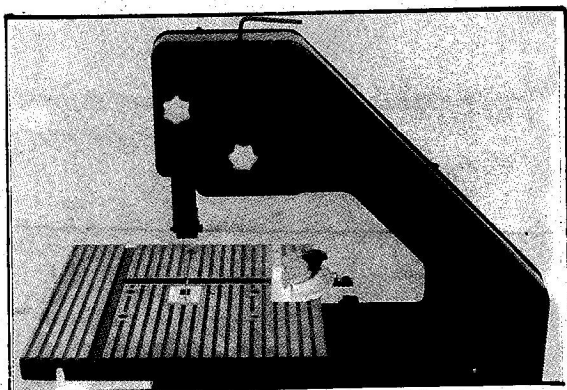

FIGURE 11
IMPORTANT! THE BLADE MUST BE TENSIONED BEFORE THE BAND SAW CAN BE USED. TO CUT, TWIST TO THE PROPER POSITION AND LOCK. WHEN THE BAND SAW IS NOT IN USE, RELEASE THE TENSION TO PROTECT THE BLADE. (See Figure 11)
8. Rotate the idler wheel by hand until the blade centers correctly on all three wheels. If the blade does not track correctly, adjust the tracking knob while rotating the idler wheel until it does so. (Figure 11).